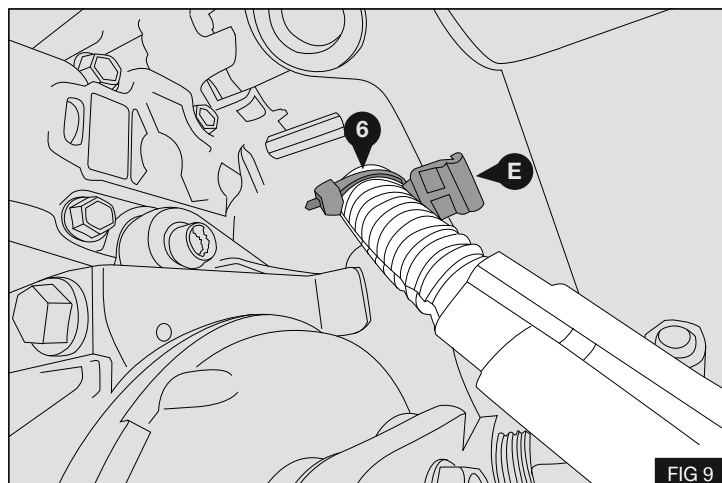

FIG 9
2. Secure original harness support (E) to the location shown in Fig 9. Position harness for maximum clearance and secure to support (E) using cable tie (6) - Fig 9